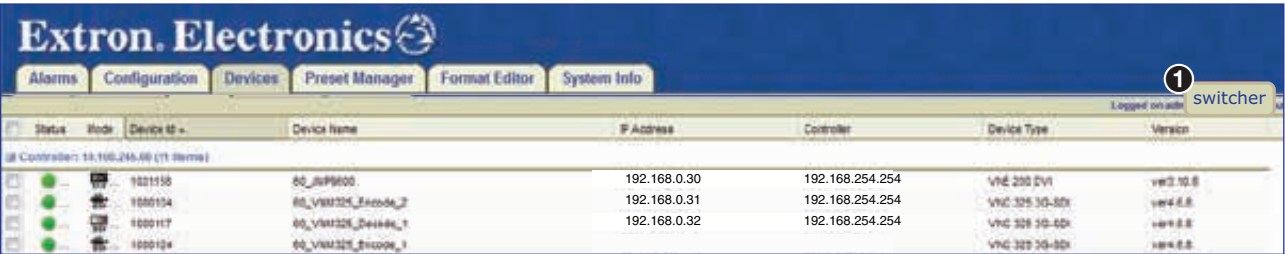

Figure 74. Switcher Access Button
1. Click **switcher** (see figure 74, ❶) to open the **Switcher** page (see Accessing the Web-based User Interface on page 10 for information on how to log in).